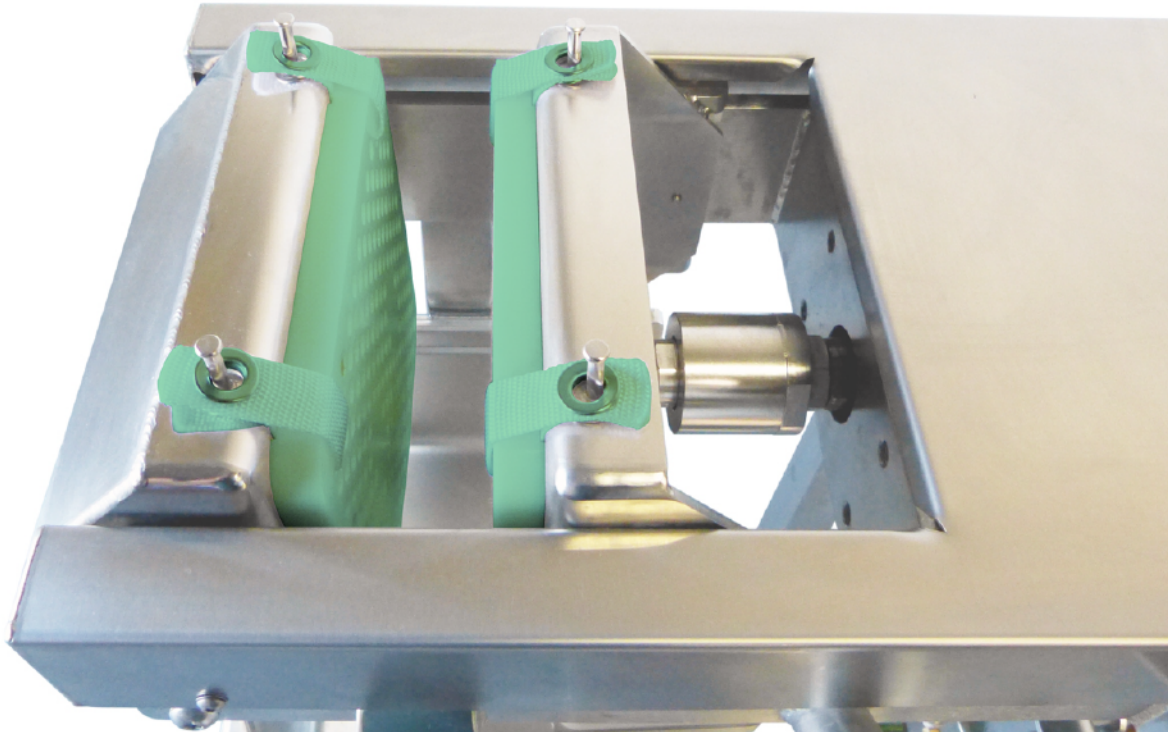

Figure 5 : *Installation of the Press Boards.*
2. Attach Press Boards to equipment. The Perforated (with holes) Press Boards are located and secured to the Platens using vertically oriented retaining posts (**Figure 5**).